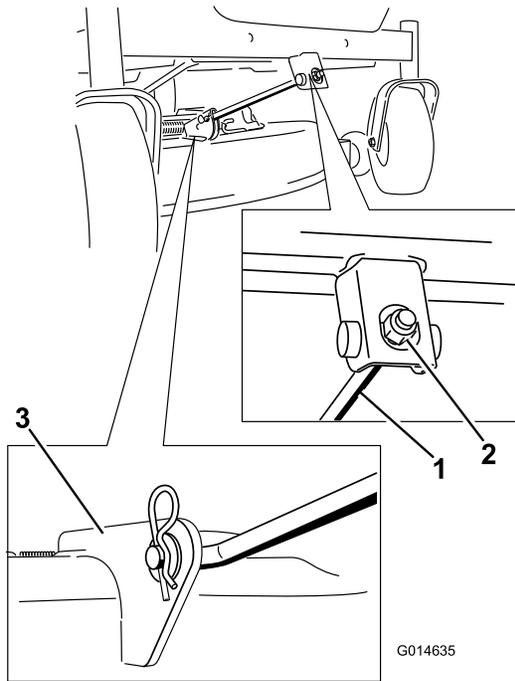

Figure 58
4. Remove the hairpin cotter from the front support rod and remove the rod from the deck bracket (Figure 58). Carefully lower the front of the mower deck to the ground.
- Attach the front support rod to the mower deck with the clevis pin and hairpin cotter (Figure 58).